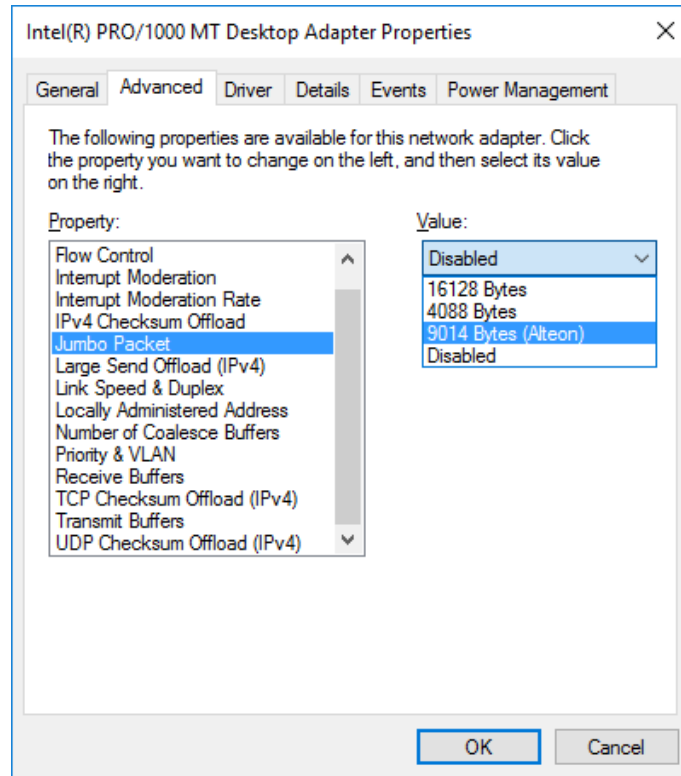

Figure 7: Jumbo Frames configuration in Windows
5. Select ‘Jumbo Packet’ and choose the desired packet size (see Figure 7)